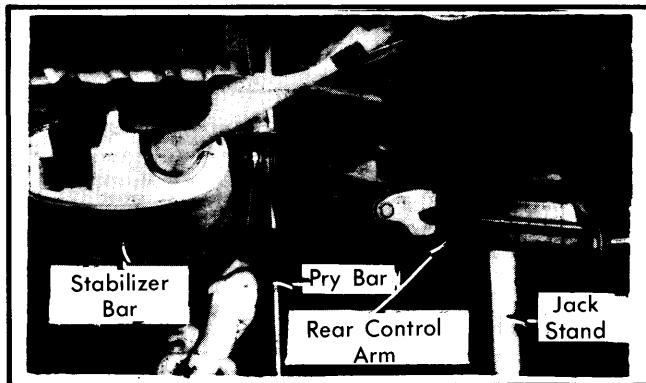

Fig. 13 Adjusting Rear Wheel Alignment Eldorado, Riviera, Seville & Toronado
5) Toe adjustments are made at inner pivot bushings. Loosen nut and bolt at inner bushing. Use pry bar, if necessary. See Fig. 13. Move control arm rearward to increase toe-in and forward to increase toe-out. Tighten bushing nut to specifications and recheck toe setting.